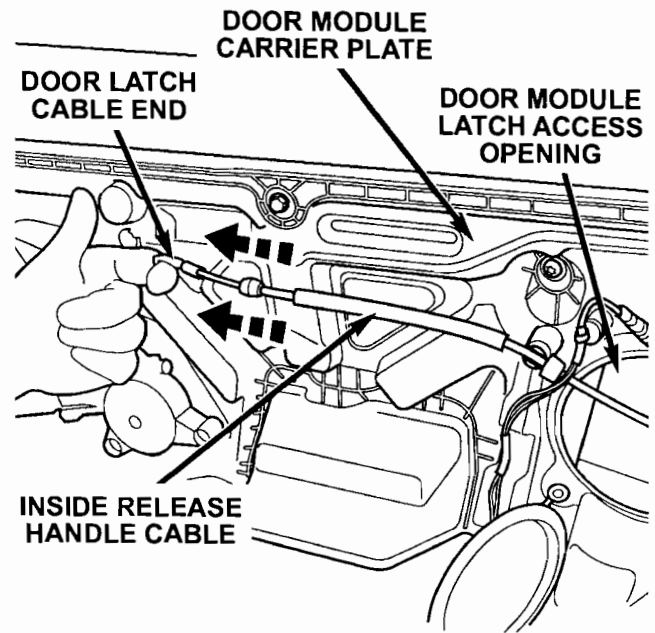

Figure 9
- a. Pull on the inside release handle cable (Figure 9).